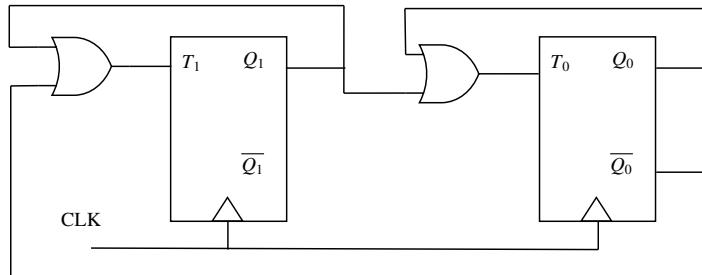

Fig. 5.25
27. The sequence of states $(Q_1 Q_0)$ of the given synchronous sequential circuit in Fig. 5.25 is _____.